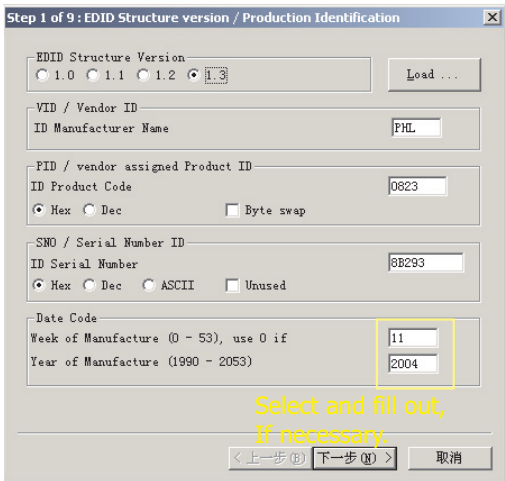

Fig. 14
- 1. Click icon (new function) icon from the tool bar, bring up Step 1 of 9 as shown in Fig. 14 . EDID46 DDC application provides the function selection and text change (select & fill out) from Step 1 to Step 9.